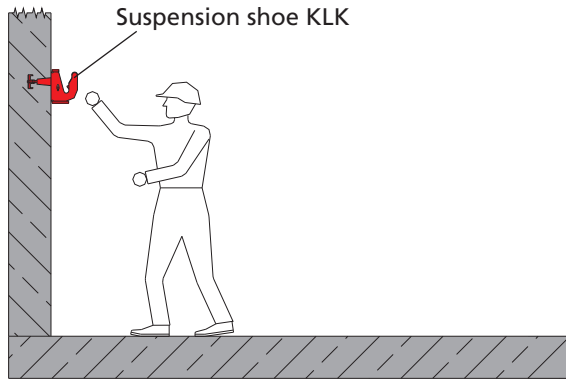
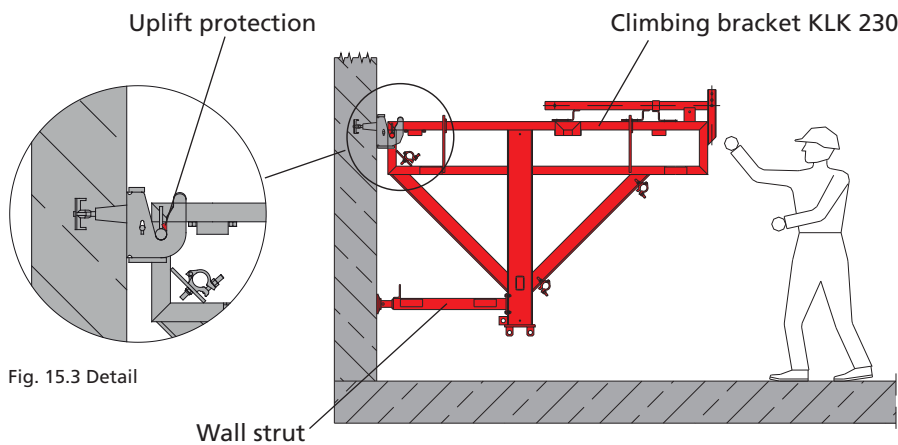

Fig. 15.1
Fig. 15.2
1. Attach suspension shoe to the climbing cone by using the suspension screw M24. Secure shoe with safety pin against unhooking (see pages KLK-12 - 13 and Fig. 15.1).
2. Attach wall strut to the climbing bracket KLK 230 by using four (4) screws M12x35 (in delivery included).
3. Attach climbing bracket to suspension shoe (Fig. 15.2 - 15.4). The uplift protection automatically secures the bracket (Fig. 15.3).